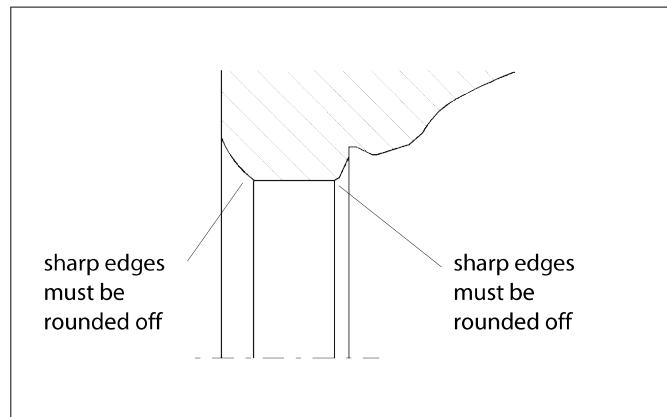
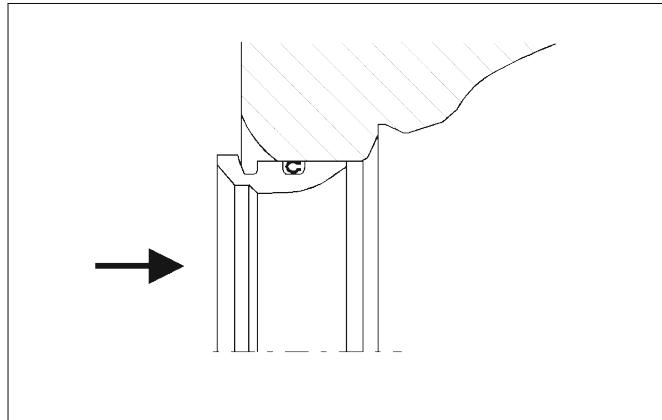

Fig. 24 Rounding the sharp edges
Fig. 25 Precompression of the lip seal
- paper and clean the flow port carefully, see Fig. 24.
- Place the back seal (6) onto the seat (4).
- Lubricate the flow port, seat (4) and back seal (6) and the lock spring (5) with a volatile lubricant, e.g. Hyprez. Make sure that the lubricants are compatible with the medium.
- Only for a lip seal:** Push the seal carefully into the flow port for about 15 minutes, Fig. 25. The following work phases must be completed before the precompression is lost.